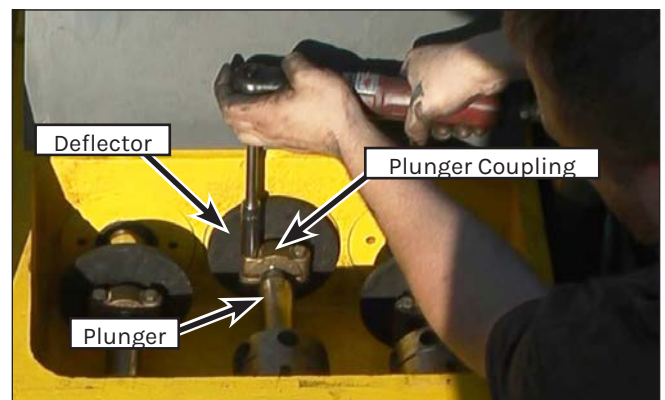

Figure 153: Plunger Connection.
10. Install the deflector (Figure 153) onto the pony rod.